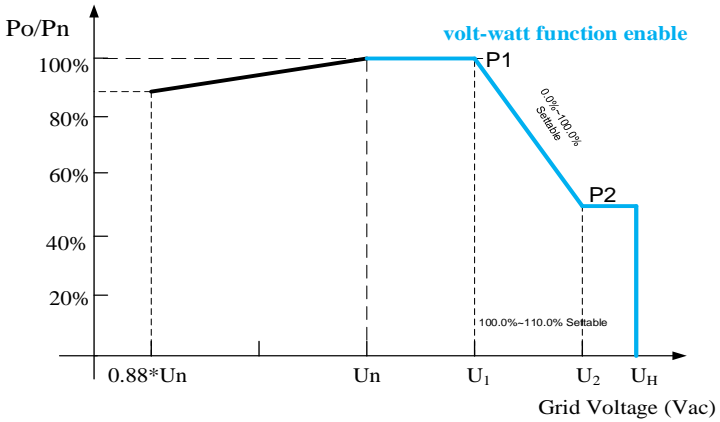

Figure 10-3-2 SCA36/50/60KTL Derating Curve of Grid Voltage
- 2) When volt-watt function enable, the grid voltage is within 100%~106% ($U_n \sim 1.06*U_n$) of the Rated Output Voltage, the inverter output power (P_n) may reach 100%. When the grid voltage is lower than the Rated Output Voltage or more than 106%Un, the inverter will limit the AC Output Current and the output power (P_n) will begin to derate, shown in Figure 10-3-2.